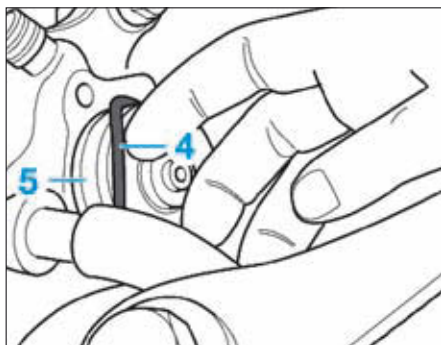

FIG. 20
- le joint (4) (Fig.20).
- Nettoyer la gorge (5) du joint (4) (Fig.20).